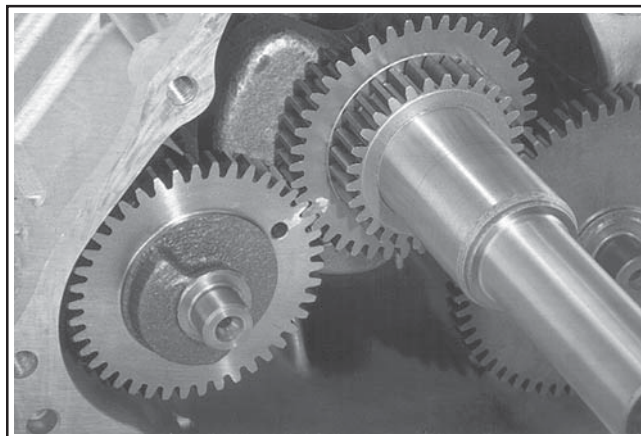

Figure 11-17. CS8.5-12. Aligning Balance Shaft and Crankgear Timing Marks.
2. Install the balance shaft, aligning the timing mark (hole) with the timing mark (dimple) on the larger crankgear. See Figure 11-17.